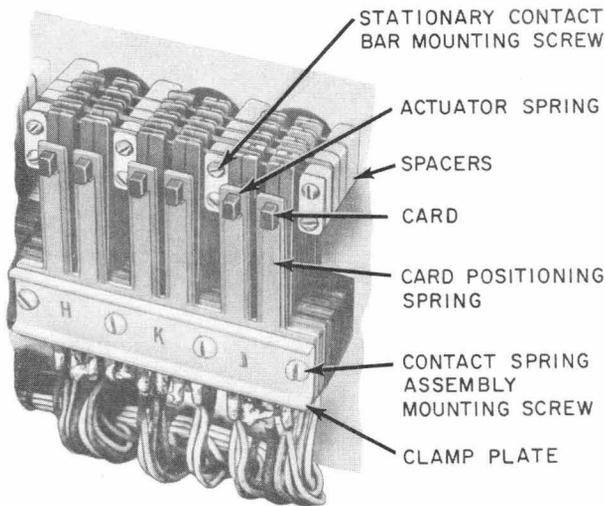

Fig. 29—Partial View of Control Contact Assembly
- (1) Remove all cards associated with the spring assembly to be replaced as covered in 3.25 or 3.26.
- (2) Place the reader in position so that, when the control contact assembly mounting plate is placed on its mounting, the contact assembly will be at the top. Do not fasten the plate to its mounting.
- (3) Referring to Fig. 29, remove the contact spring assembly mounting screws using the 5-inch E screwdriver. Remove the clamp plate and the card positioning and actuator springs. Remove the plates above the top contact spring assembly, noting their relative positions and that of all other plates subsequently removed from the pile-up.
- (4) Lift the top contact spring assembly from the pile-up and, if it is not to be replaced, swing it away from the pile-up, taking care not to damage the leads. If the assembly is to be replaced, tag and unsolder the leads to the contact springs.
- (5) Successively remove the plates and swing the contact spring assemblies away from the pile-up as described below until the assembly to be replaced is accessible. To swing a contact spring assembly away from the pile-up, lift the terminal end of the assembly and carefully withdraw the contact springs from between the stationary contact bars.
- (6) When the contact spring assembly to be replaced is accessible, tag and unsolder the leads to the contact springs. Remove the contact spring assembly and connect and solder the leads to the proper contact springs in the new assembly.
- (1) Remove all cards associated with the contact bar to be replaced as covered in 3.25 or 3.26.
(3) Referring to Fig. 29, remove the screws mounting the stationary contact bars and associated spacers using the 4-inch E screwdriver. Note the relative position of the spacers.
(4) Slide the contact bar to be replaced and the associated spacers from the assembly. Place the new contact bar and associated spacers in position in the pile-up. Insert and partially tighten the mounting screws for the contact bars and spacers. Check that the holes through which the cards pass are in alignment and then securely tighten the screws.
(5) Remount the cards as covered in 3.25 or 3.26.